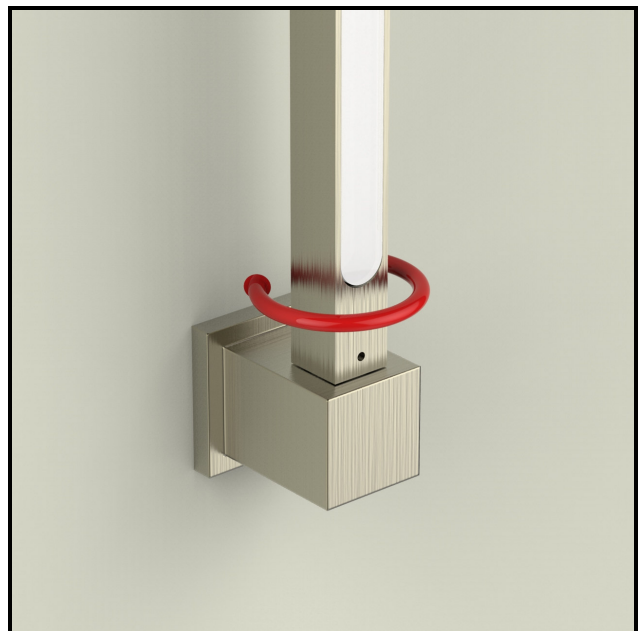

Figure 2
- If the light bar should be directly aimed into the room (Figure 2), proceed to the next step.